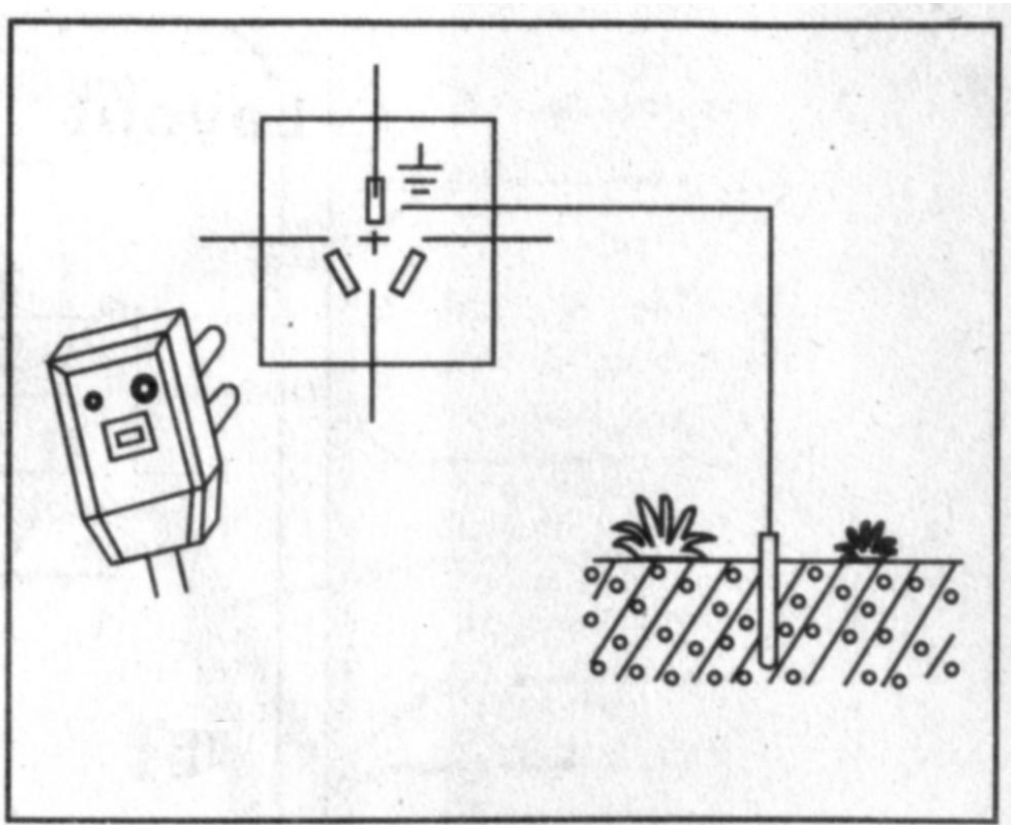

Fig. 10
- ① The socket and plug should be connected well.
- ② If auxiliary electric heating system installed, do connect the live wire, null wire and ground wire correctly with power-leakage protection plug. The socket should be connected to ground reliably. (Fig.10)